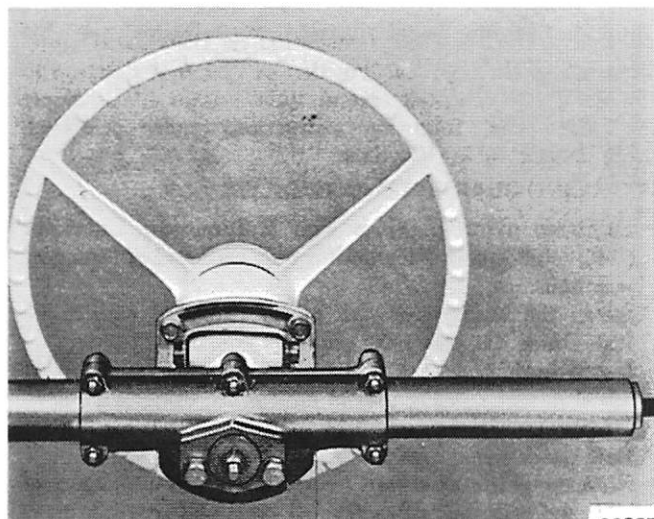

Figure 3. Left Hand Cable Installation
*NOTE: Normal installation requires right hand installation of steering wheel with steering cable protruding from right side of gear rack. However, if it becomes necessary to have steering cable protrude from left of gear rack, turn the gear rack around so cable protrudes from the left as shown in Figure 3.*